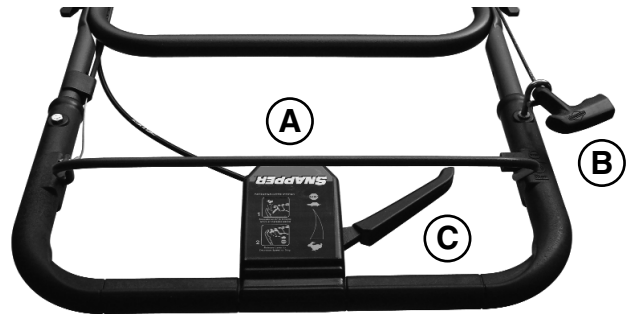

Figure 5
- Hold the bail control (A, Figure 5) against the drive handle.
- Pull the recoil rope handle (B) until the engine starts.
- To engage the drive system, slowly pull the drive lever (C) back. To increase ground speed, slowly pull the drive lever farther back. To decrease ground speed, slowly release the drive lever.